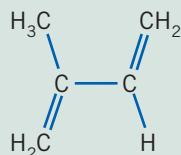

Figure 3.28
- 18** Figure 3.28 shows some chlorides of elements from period 3 at room temperature. From left